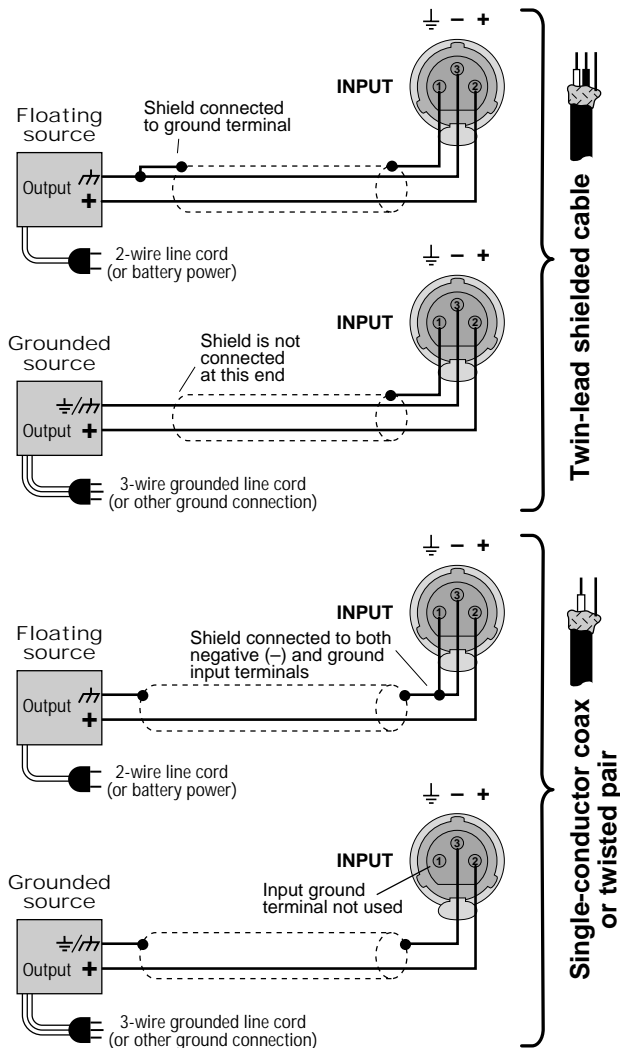
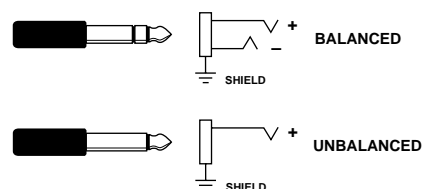

Fig. 3.7 Unbalanced Input Wiring
Fig. 3.9 Balanced and Unbalanced Phone Plugs
Both the balanced XLR and phone jack inputs have a nominal impedance of 20 K ohms (10 K ohms with unbalanced wiring) and will accept the line-level output of most devices. Female XLR input connectors are provided on the standard P.I.P.-FX input module (other P.I.P. modules are described in Section 8.1). Correct input wiring will depend on two factors: (1) whether the input signals are balanced or unbalanced, and (2) whether the signal source floats or has a ground reference. Figures 3.7 and 3.8 show the recommended connection techniques for each type of signal source.
the tip is positive (+), the ring is negative (-) and the sleeve is ground (see Figure 3.9). Wiring for various sources follows the XLR wiring guidelines shown in Figures 3.7 and 3.8.